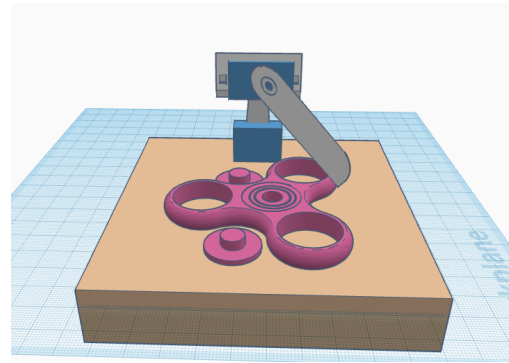

Figure 3: Full cad file, fidget spinner and connected to the base block (tan). The base is 5" x 7" x 5/16". Blue blocks are the motors.
1. Make a base of the same dimensions or smaller as the tan base in figure 3 using cardboard or any hard surface.
4. Looking at figure 3, you should have one motor at the bottom of the big arm and they will be connected by taking one of the screws in the motor bag and screwing in the motor to the big arm using a screwdriver.
7. Now that you have the two arms connected to each other, start to position the jointed arm in a way where the small arm will hit the fidget spinner. See figure 3.
9. Using two zip ties secure the bottom motor to the base by connecting one right hole to one left hole and then do that again. Use figure 3 as a reference to see how the end result would look.